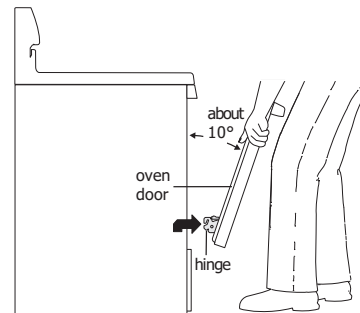

Figure 22: How to remove door
3. Firmly grasp both sides of oven door along the door sides (Do not use the oven door handle - Figure 22).
5. With the oven door in the broil stop position, lift the oven door hinge arms over the roller pins located on each side of the oven frame (Figure 22).
1. Firmly grasp both sides of oven door along the door sides (Do not use the oven door handle - Figure 22).